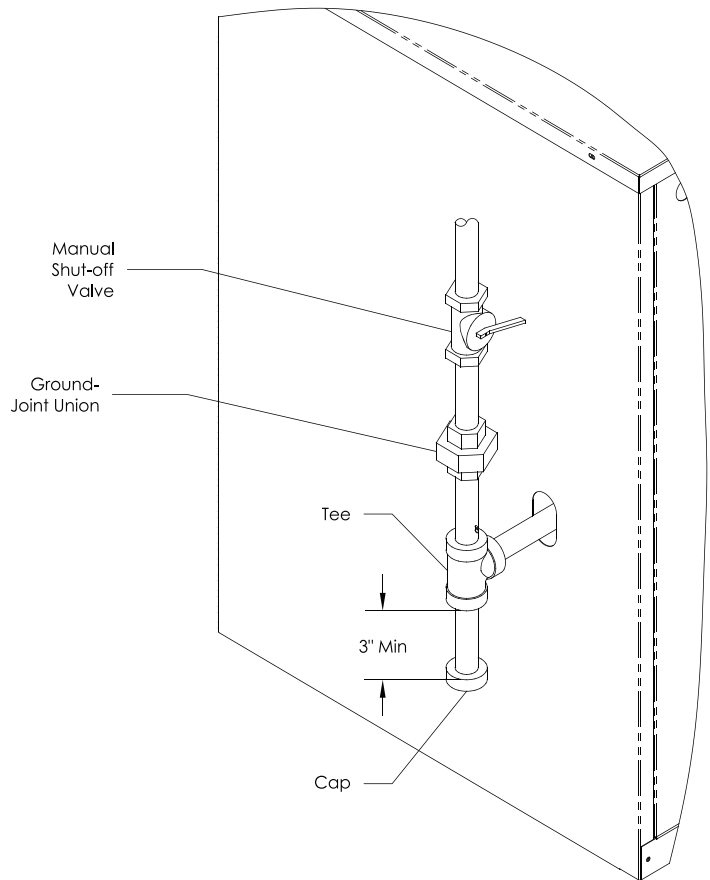

Figure 7-2: Pilot and Gas Piping From Main Gas Line (Contractor Installed)
3. Install sediment trap, ground-joint union and manual shut-off valve upstream of boiler gas control valve. See Figure 7-2 (within 6 ft of boiler).